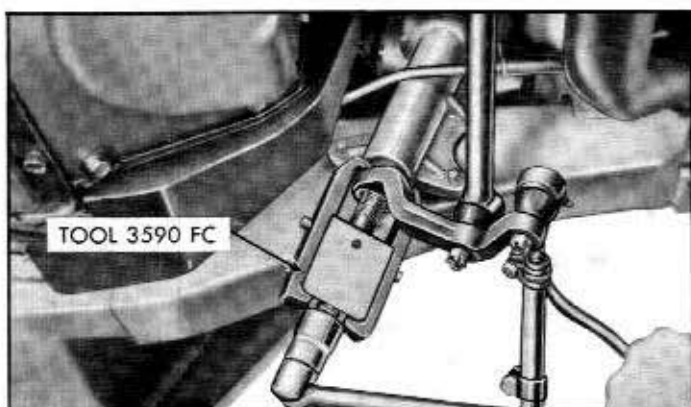

Fig. 5-8—Sector Shaft Arm Removal—(61CM-1201)
1. Raise the front of the car and install safety stands. Remove the drag link end and idler arm end from the sector shaft with Tool 3290-B. Remove the sector shaft arm retaining nut and remove the arm from the sector shaft. See figure 5-8.